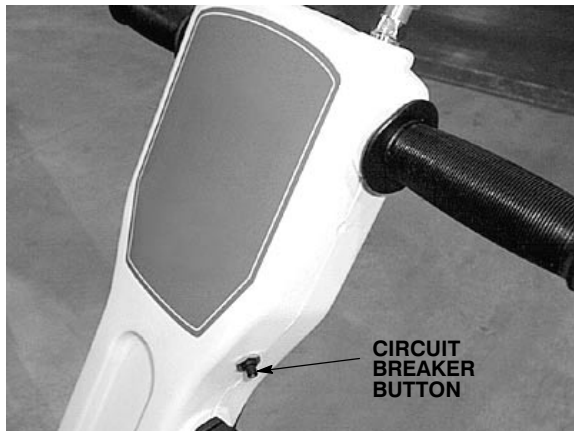

FIG. 7
**NOTE:** To prevent the possibility of motor overload and causing circuit breaker to trip. Periodically check pad pressure meter and pad for excessive soil build-up. Turn pad over, clean or replace when necessary. If Circuit Breaker should trip, unplug power cord. Wait at least 15 seconds before resetting breaker switch. While waiting determine reason why circuit breaker tripped (Figure 7).